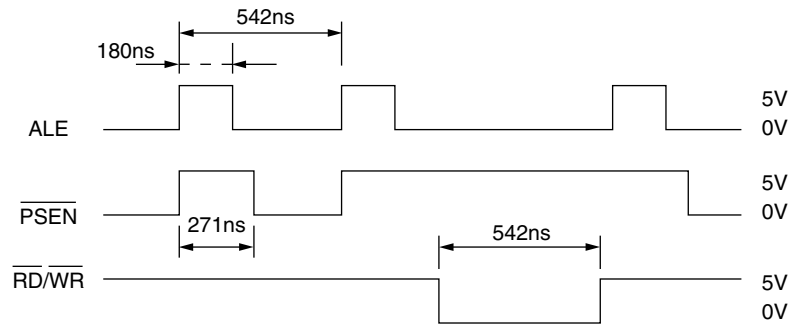

Figure B-6
• Yes Are ALE, $\overline{\text{PSEN}}$, $\overline{\text{RD}}$, $\overline{\text{WR}}$, signals as specified in Figure B-6?